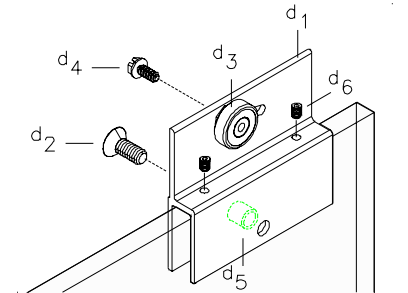

figure 5
7. Attach Hanger Brackets as shown in exploded view - sheet 1 and figure 5 this sheet. Begin by inserting a Nylon Sleeve (d5) into the glass panel holes.
Next, screw in two Nylon Set Screws (d6) onto the Hanger Bracket (d1) as shown in figure 5 (the purpose of nylon set screws is for leveling adjustment of hanger bracket so it will not "see saw" on glass) adjust as required.